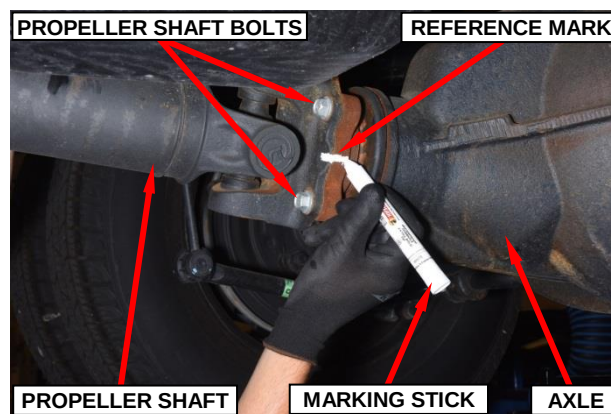

Figure 4 – Driveline Alignment Mark
4. Place alignment marks on the front and rear propeller shafts and the axle companion flanges for assembly alignment (Figure 4).
33. Align the rear axle flange-to-propeller shaft reference marks made prior to removal. Install the rear propeller shaft using new bolts. Tighten the transfer case companion flange-to-propeller shaft bolts to 55 ft. lbs. (75 N·m). Tighten the axle flange-to-propeller shaft bolts to: (DD, DF models) 89 ft. lbs. (120 N·m) / (DP models) 55 ft. lbs. (75 N·m) (Figure 4).